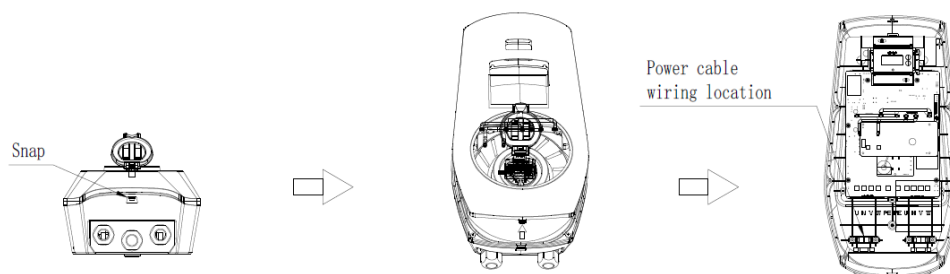

Figure 2- Wiring diagram
2. According to the arrow direction in Figure 2, break open the upper cover upwards;